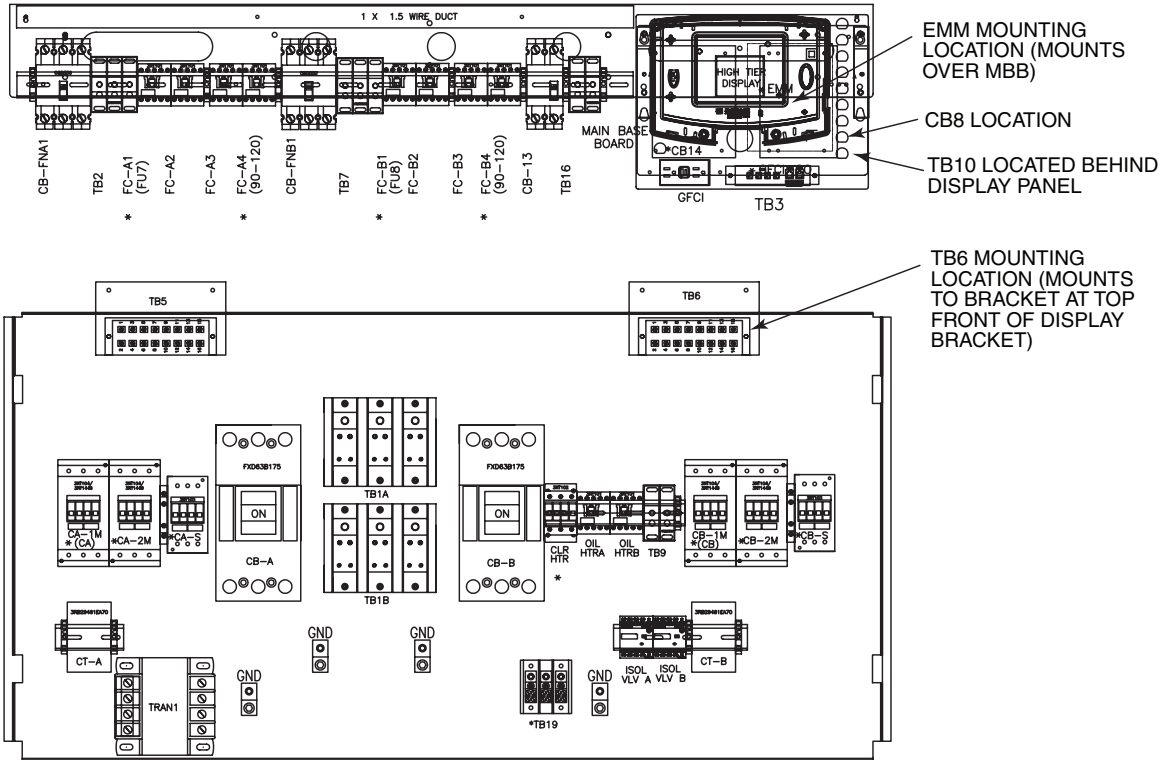
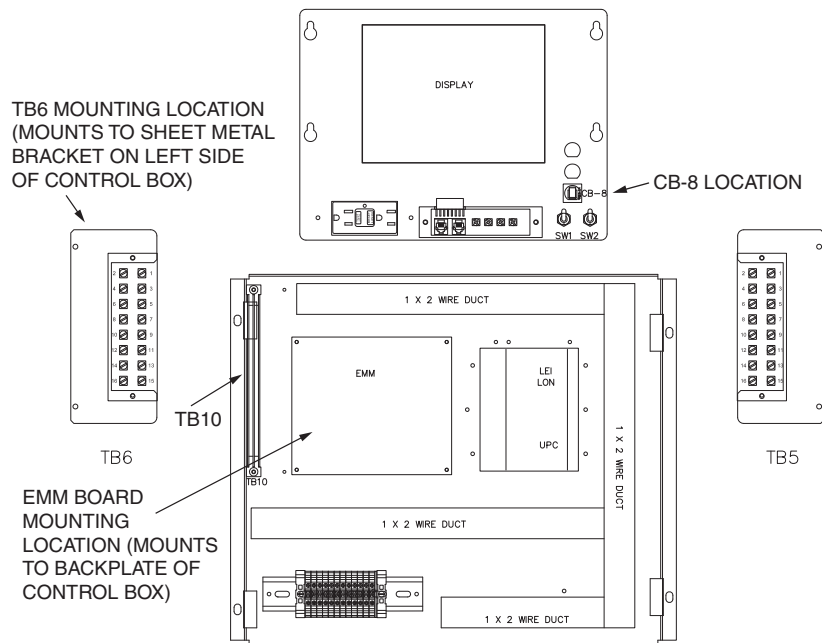

Fig. 3 — Component Layout — 30XA080-122 (460, 575 v) Units
Fig. 8 — Component Layout — 30XA Variable Speed 140-352 Units
For 30XA units, install the circuit breaker (CB8) in the hole on the display mounting bracket. Connect the main unit harness EMM-J1 2-pin power plug to J1 on the EMM board. Connect the red and brown wires from the 2-pin connector to the installed CB8. From CB8, run red and brown wires to the terminal blocks described in Table 4. See Fig. 3 and 4 for component layout.
9. The opposite ends of the wiring harnesses connected to J4, J5, J6, J7A, and J7B utilize 1/4-in. spade connectors. Connect these 1/4-in. spade connectors to TB6-1 through 15 as described in Table 6. See Fig. 6 and 7 for 30RB and Fig. 3 and 4 for 30XA fixed speed.
2. Locate the control panel enclosure. See Fig. 8 for control panel layout.
3. Install EMM board in location shown in Fig. 8.
4. Install circuit breaker CB-8 in the hole on the display mounting bracket. See Fig. 8 for location. Connect the accessory-supplied EMM-J1 2-pin power plug to J1 on the EMM board. Connect the red and brown wires from the 2-pin connector to the installed CB-8. From CB-8, run red and brown wires to terminal blocks described in Table 4. See Fig. 8 for component layout.
NOTE: TB10 and TB11 are separate from the MBB and EMM board. See Fig. 3 for TB10 Fixed Speed, Fig. 4 for TB11, and Fig. 8 for TB10 Variable Speed.